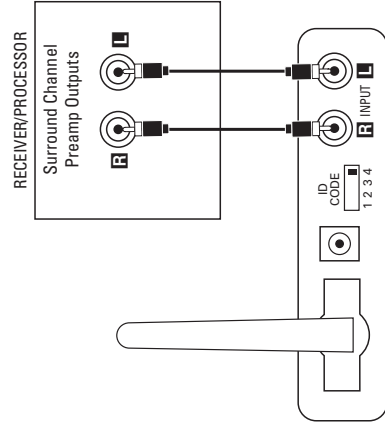

Figure 1.
Connect the interconnect cable (included) to the left and right surround/rear preamp outputs on the back of your source and the input on the transmitter module ④, as shown in Figure 1.